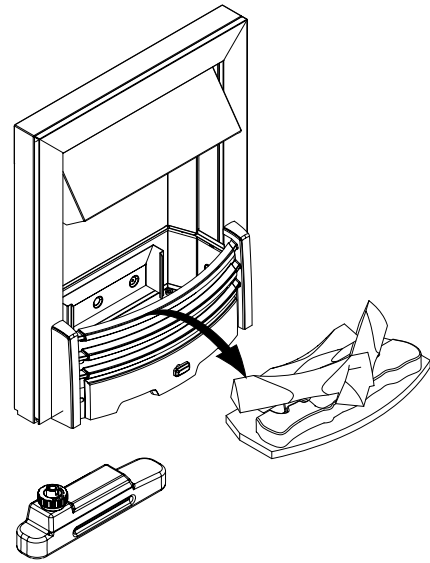

Fig.3
2. Gently lift out the fuelbed and place carefully on the ground. (See Fig.3)